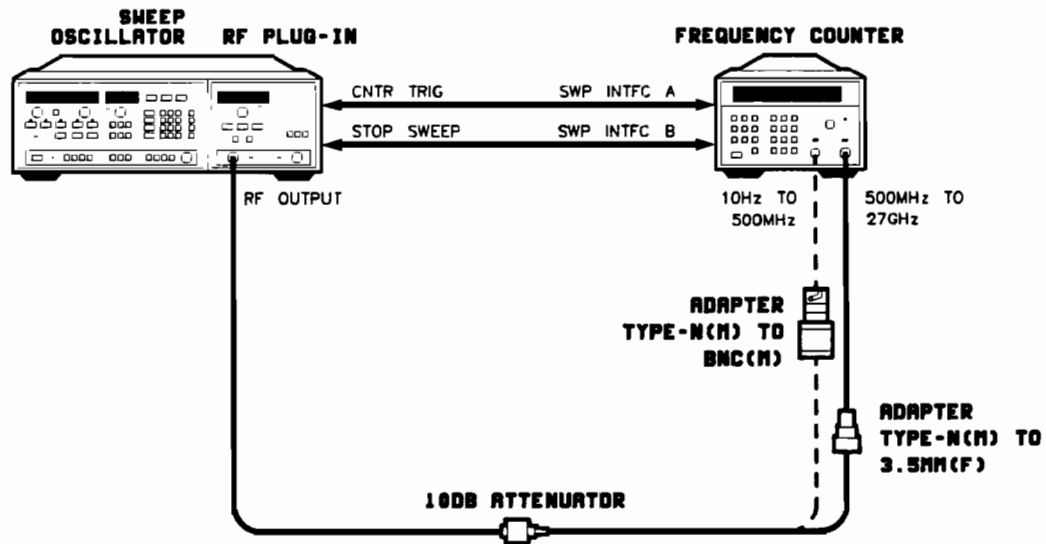

Figure 4-1. Frequency Range and CW Accuracy Test Setup
1. Connect the equipment as shown in Figure 4-1 and press [INSTR PRESET] on the HP 8350/83592A. Allow at least one hour warm-up. Note that the sweep oscillator display indicates a start frequency of 10 MHz and a stop frequency of 20.0 GHz.